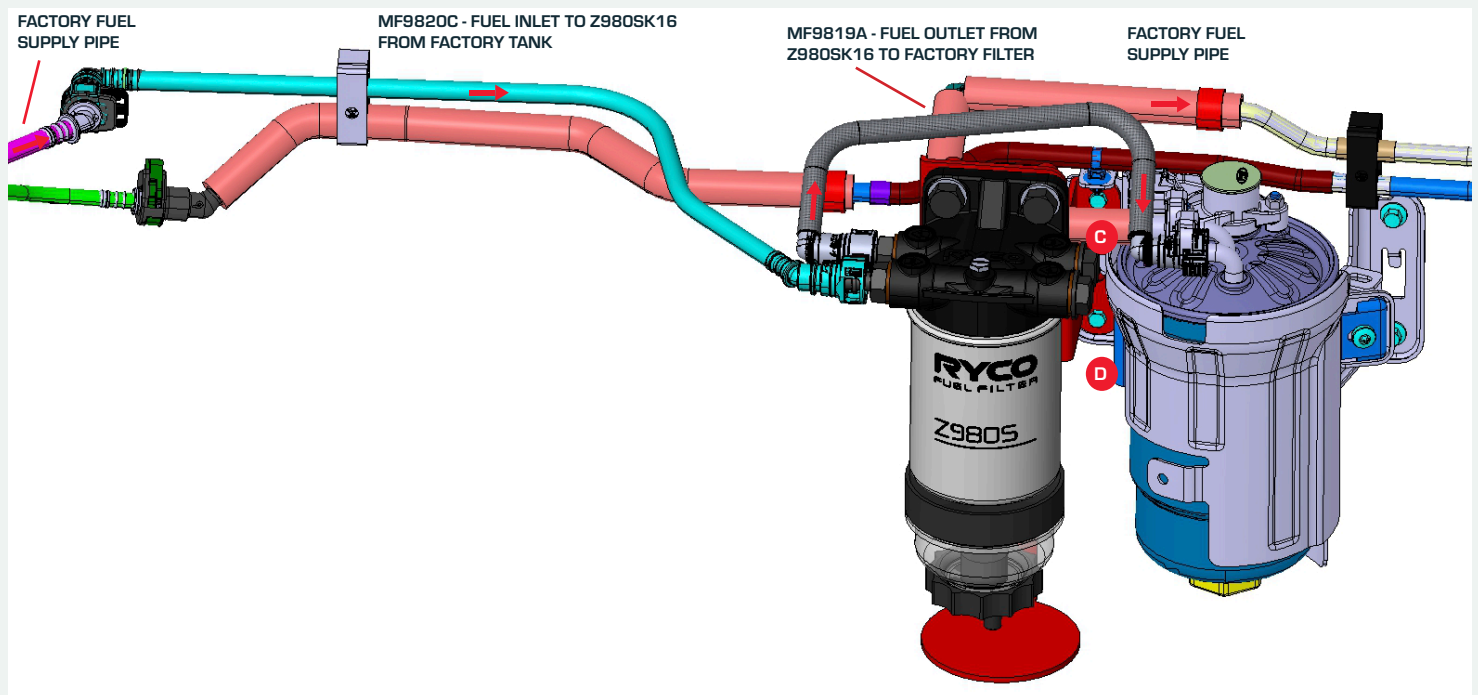

FIGURE 9
- 9 The fuel supply lines are pre-formed nylon tubes. Carefully thread it back, down and installation. Ensure the locking tab is engaged. Check the fuel pipes routing to ensure they're not kinked. [See FIG. 9]